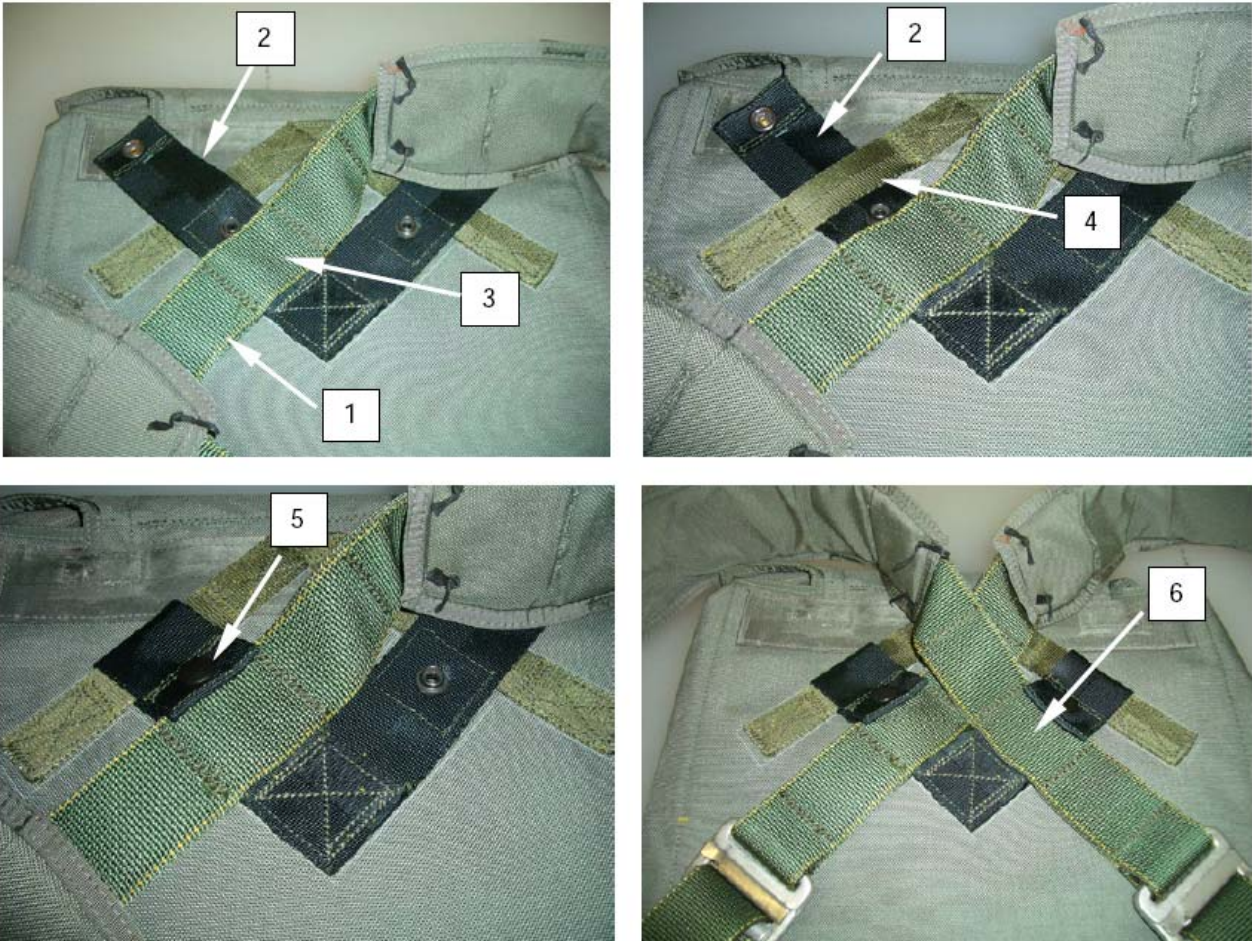

Figure 53. Attach Diagonal Back Straps onto Main Pack Tray.
4. Attach diagonal back straps (Figure 53, Item 1) by routing the diagonal back strap retainer (Figure 53, Item 2) through the selected sizing channel (Figure 53, Item 3).
5. Route the diagonal back strap retainer (Figure 53, Item 2) through the diagonal back strap keeper (Figure 53, Item 4).
6. Close snap fastener (Figure 53, Item 5) to secure.
7. Repeat for the opposite side (Figure 53, Item 6). Ensure that the same sizing channel is used for both.